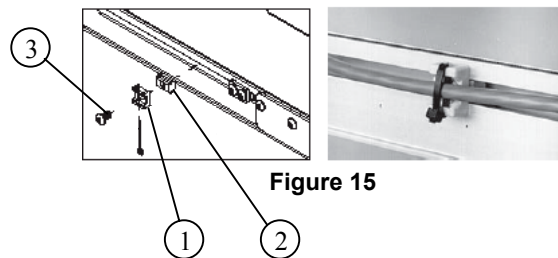

Figure 15
2. To route cable over a previously mounted component or to anchor the cable use the mounting cable ties (Figure 15, item 1) and single drop-in t-bars (Figure 15, item 2). Secure with screws (Figure 15, item 3).